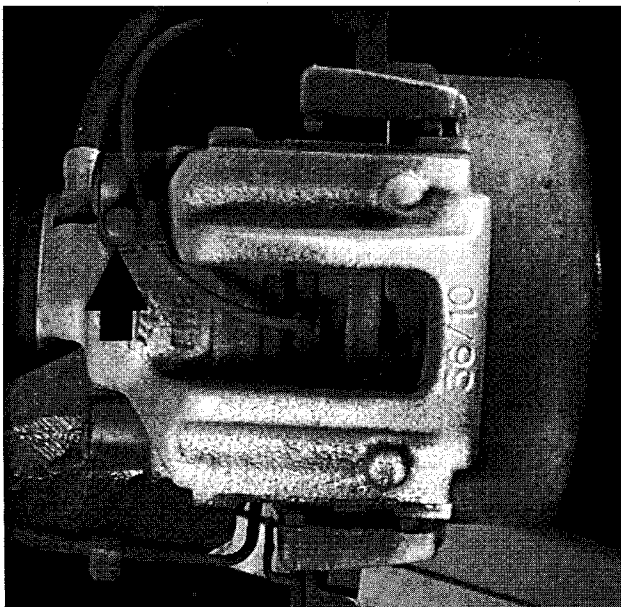

Fig. 1. Brake caliper bleeder screw (arrow).
3. Open bleeder screw. See Fig 1. Have helper slowly pump brakes about 10 times with bleeder screw open, holding pedal down on the last pump. When escaping fluid is free of air bubbles, close bleeder screw.